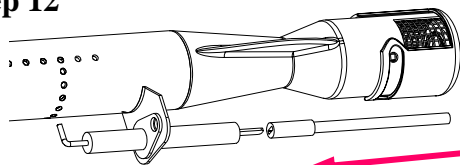

Fig. 12A
*Locate:* (3) Burner Tubes with Igniter electrodes attached and (3) ST4.0x10 Screws.
*Procedure:* Attached to each Burner Tube is an Ignition Electrode with a pin at the end of the Electrode. You need to attach each of the (3) ignition wires that you had pushed through the openings onto the pin end of the Electrode per Fig. 12A.